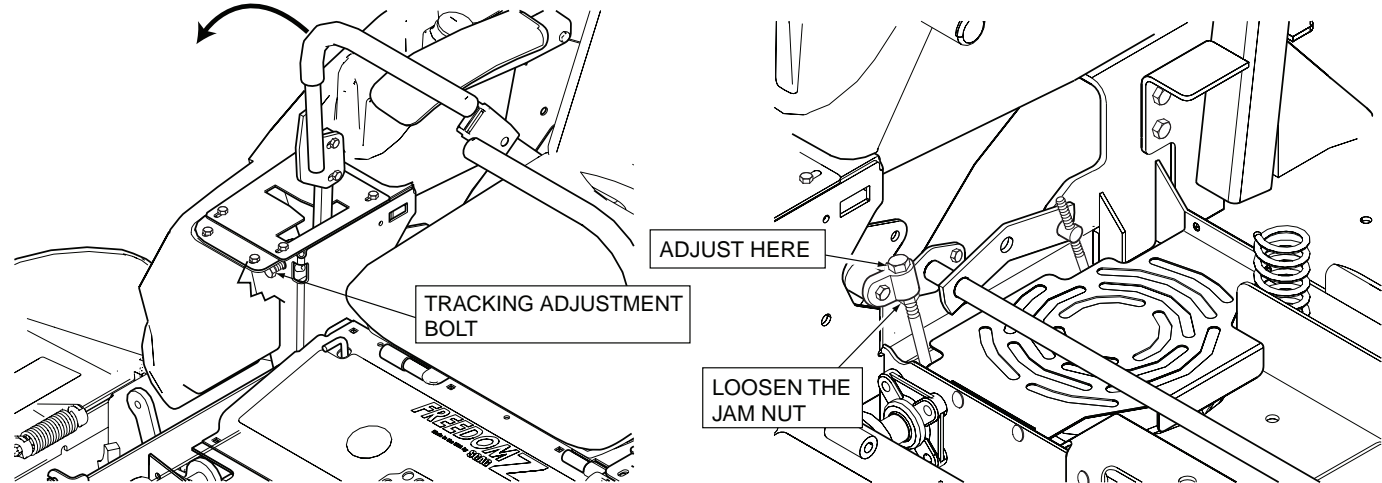

Figure 6-3. Steering Control Rod Adjustment
4. Adjust the RH wheel by loosening the jam nuts on the steering control rod and turning the adjustment nut until the drive wheel turns in the forward direction. Turn the adjustment nut back until the drive wheel stops moving. Turn the adjustment nut an additional 1/2 turn. See Figure 6-3.
5. Tighten the jam nuts and repeat for the LH wheel. See Figure 6-3.
- A. Stop the machine and place the steering control levers in the neutral position. Turn the tracking adjustment bolt for the LH pump inward (clockwise). This will cause the control rod to stroke the LH pump less, slowing down the LH wheel. See Figure 6-3.
- A. Stop the machine and place the steering control levers in the neutral position. Turn the tracking adjustment bolt for the RH pump inward (clockwise). This will cause the control rod to stroke the RH pump less, slowing down the RH wheel. See Figure 6-3.
When the clutch is disengaged, the air gap between the armature and rotor must be adjusted to fifteen thousandths of an inch, 0.015, for proper operation. The airgap adjustment is made at three bolts on the clutch. There are three inspection windows, one next to each adjusting bolt. See Figure 6-3.